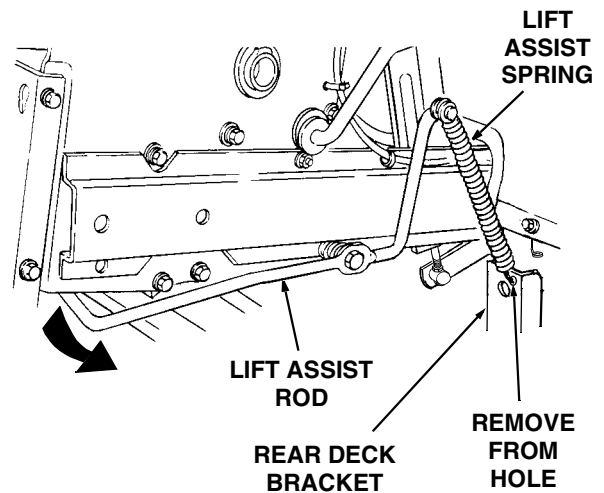

Figure 45
3. Raise the deck by moving the implement lift handle to its highest setting. From beneath the right rear fender, release the right lift assist rod from the tractor frame by pushing down then outward on the rear end of the rod. Allow the lift assist rod to raise upward and disengage the lower hook of the lift assist spring from the hole in the right rear deck bracket (See Figure 45).